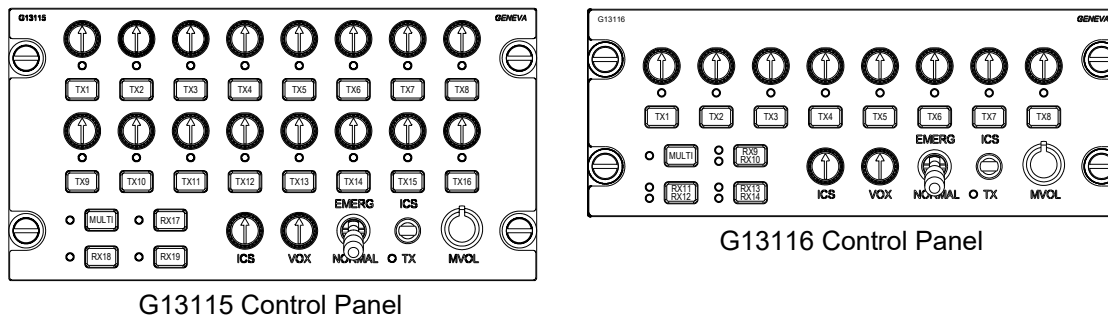

Figure 4 Control Panels
The following are the most common Control Panel types (See Figure 4):
5. On G13116 control panels three of the multi-purpose buttons may be set to control two fixed-volume receive-only devices. In Figure 4 an example is the RX11/RX12 button at the bottom left of the control panel. The two LEDs to the left of the button indicate which of the devices is enabled. Pressing the button cycles through the possible combinations e.g.